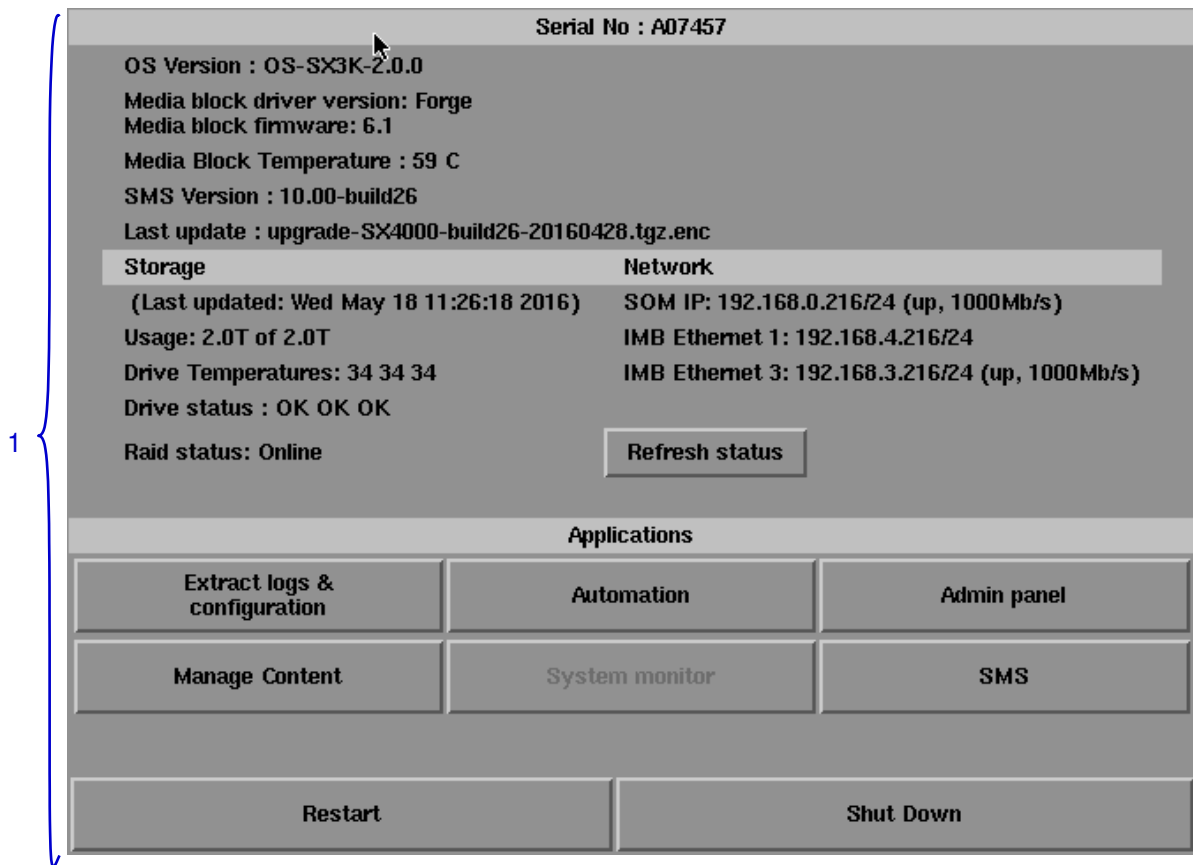

Figure 53: Introduction to the Control Panel interface
- 1 Switch **ON** the IMB and allow it to boot up to the login window to the SMS interface. When the SMS interface is shown, press the **Control Panel** button and a new window for the **Control Panel** opens as shown in **Figure 53**. The **Control Panel** includes the **Automation** button, **Admin panel** button, **Manage Content** button, **SMS** button, **Restart** button, **Shut Down** button and a **Refresh status** button. System information including the serial number, OS version, SMS version, network and storage information can also be seen on the Control Panel UI.